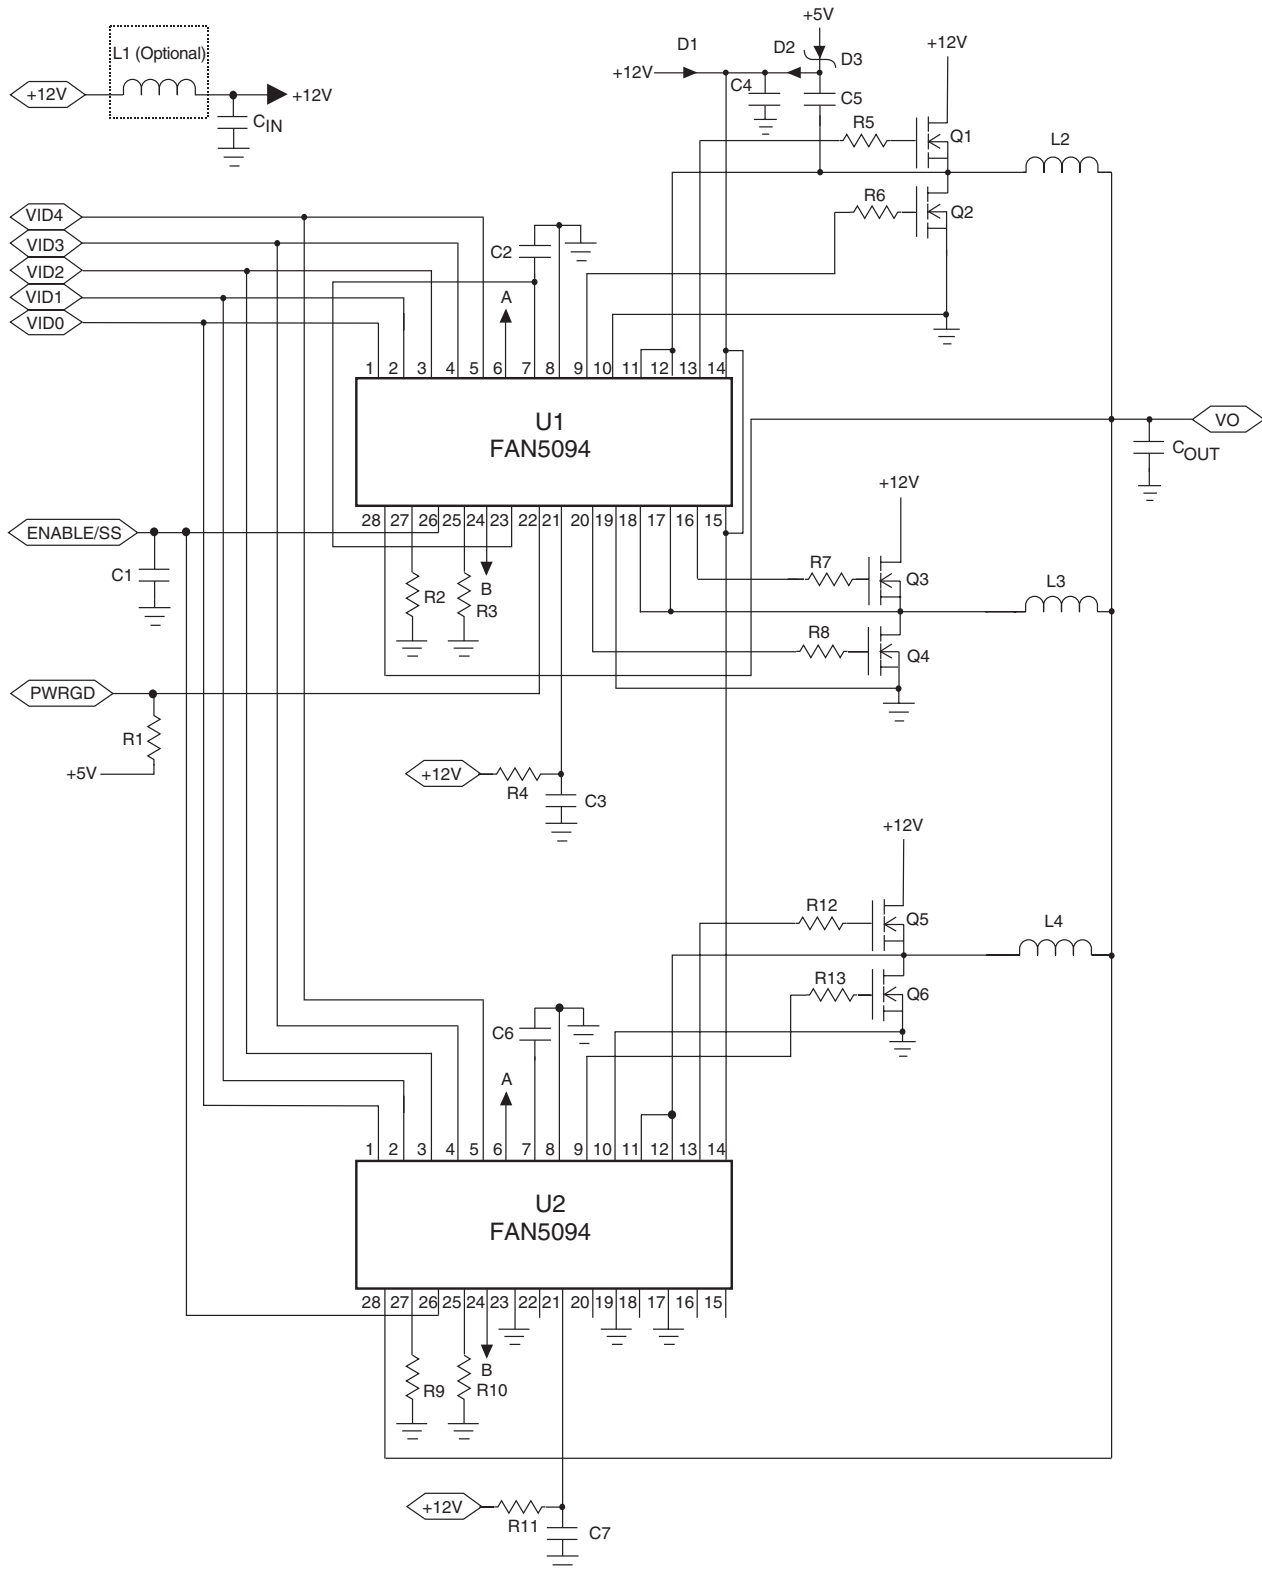

Figure 1. Three-Phase Application Circuit for 65A Willamette Processor
( $V_{CC} = 12V$ ,  $V_{OUT} = 1.500V$ , and  $T_A = +25^{\circ}C$  using circuit in Figure 1, unless otherwise noted.)
( $V_{CC} = 12V$ , and  $T_A = +25^{\circ}C$  using circuit in Figure 1 , unless otherwise noted.)
**Table 2. FAN5094 Application Bill of Materials for Figure 1**
The FAN5094 contains four high current output drivers that utilize MOSFETs in a push-pull configuration. The drivers for the high-side MOSFETs use the BOOT pin for input power and the SW pin for return. The drivers for the low-side MOSFETs use the VCC pin for input power and the PGND pin for return. Typically, the BOOT pin will use a charge pump as shown in Figures 1–2. Note that the BOOT and VCC pins are separated from the chip’s internal power and ground, BYPASS and AGND, for switching noise immunity.